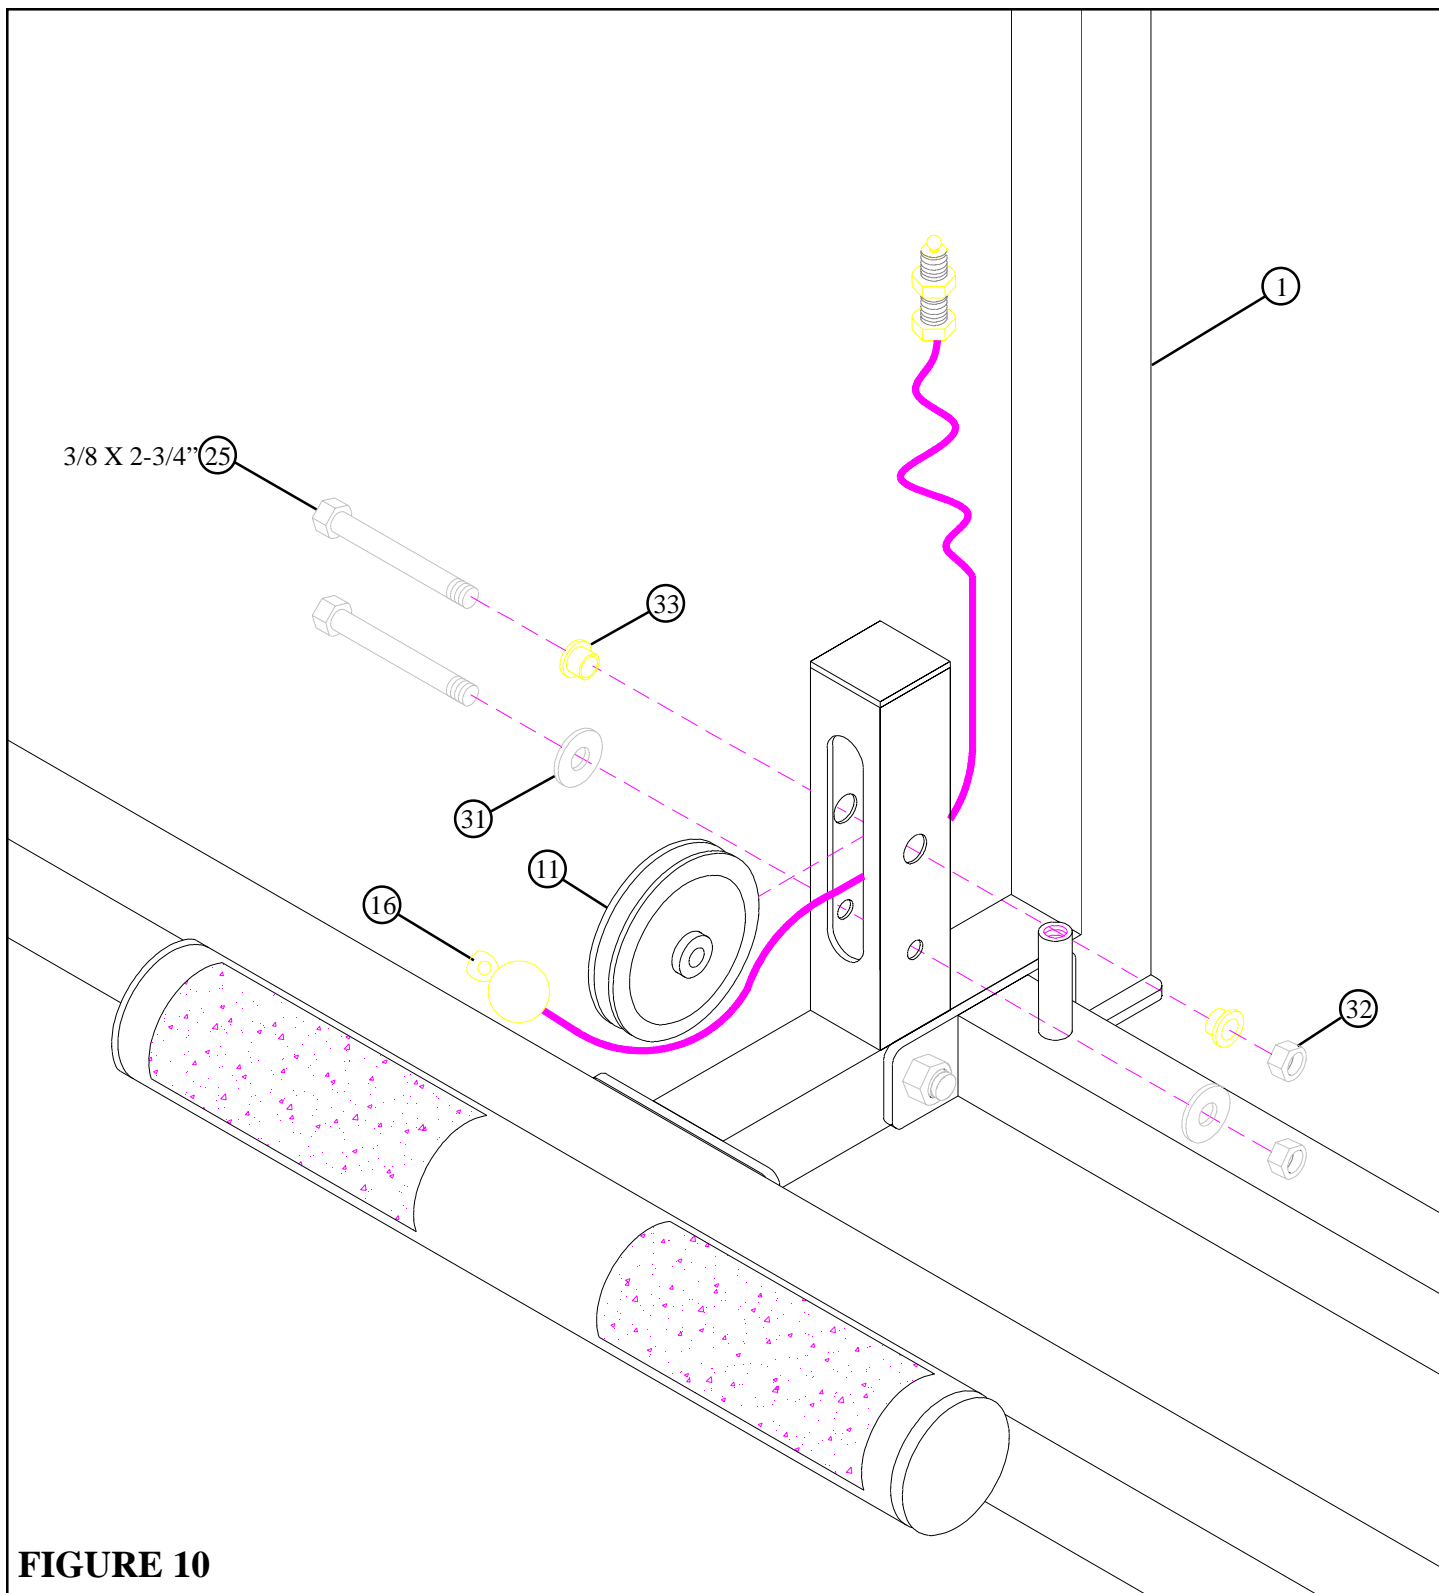

**FIGURE 9**
- Swing the GUIDE RODS (9) under the TOP BOOM (2) as shown on FIGURE 9.
- Assemble the TOP BOOM (2) over the GUIDE RODS (9) and **SECURELY** assemble the TOP BOOM (2) to the UPRIGHT (1) using two 1/2 X 3" BOLTS (28), two 1/2" WASHERS (29), and one 1/2" LOCK NUT (30). See FIGURE 9.
- **SECURELY** assemble the TOP BOOM (2) to the top of the POWER RACK using two 3/8 X 3" BOLTS (26), four 3/8" WASHERS (31), and two 3/8" LOCK NUTS (32). See FIGURE 9.
- Screw the threaded end of the LAT CABLE (15) approximately 3/4" into the end of the WEIGHT STACK SHAFT (13) and tighten jam nut securely. See FIGURE 9.